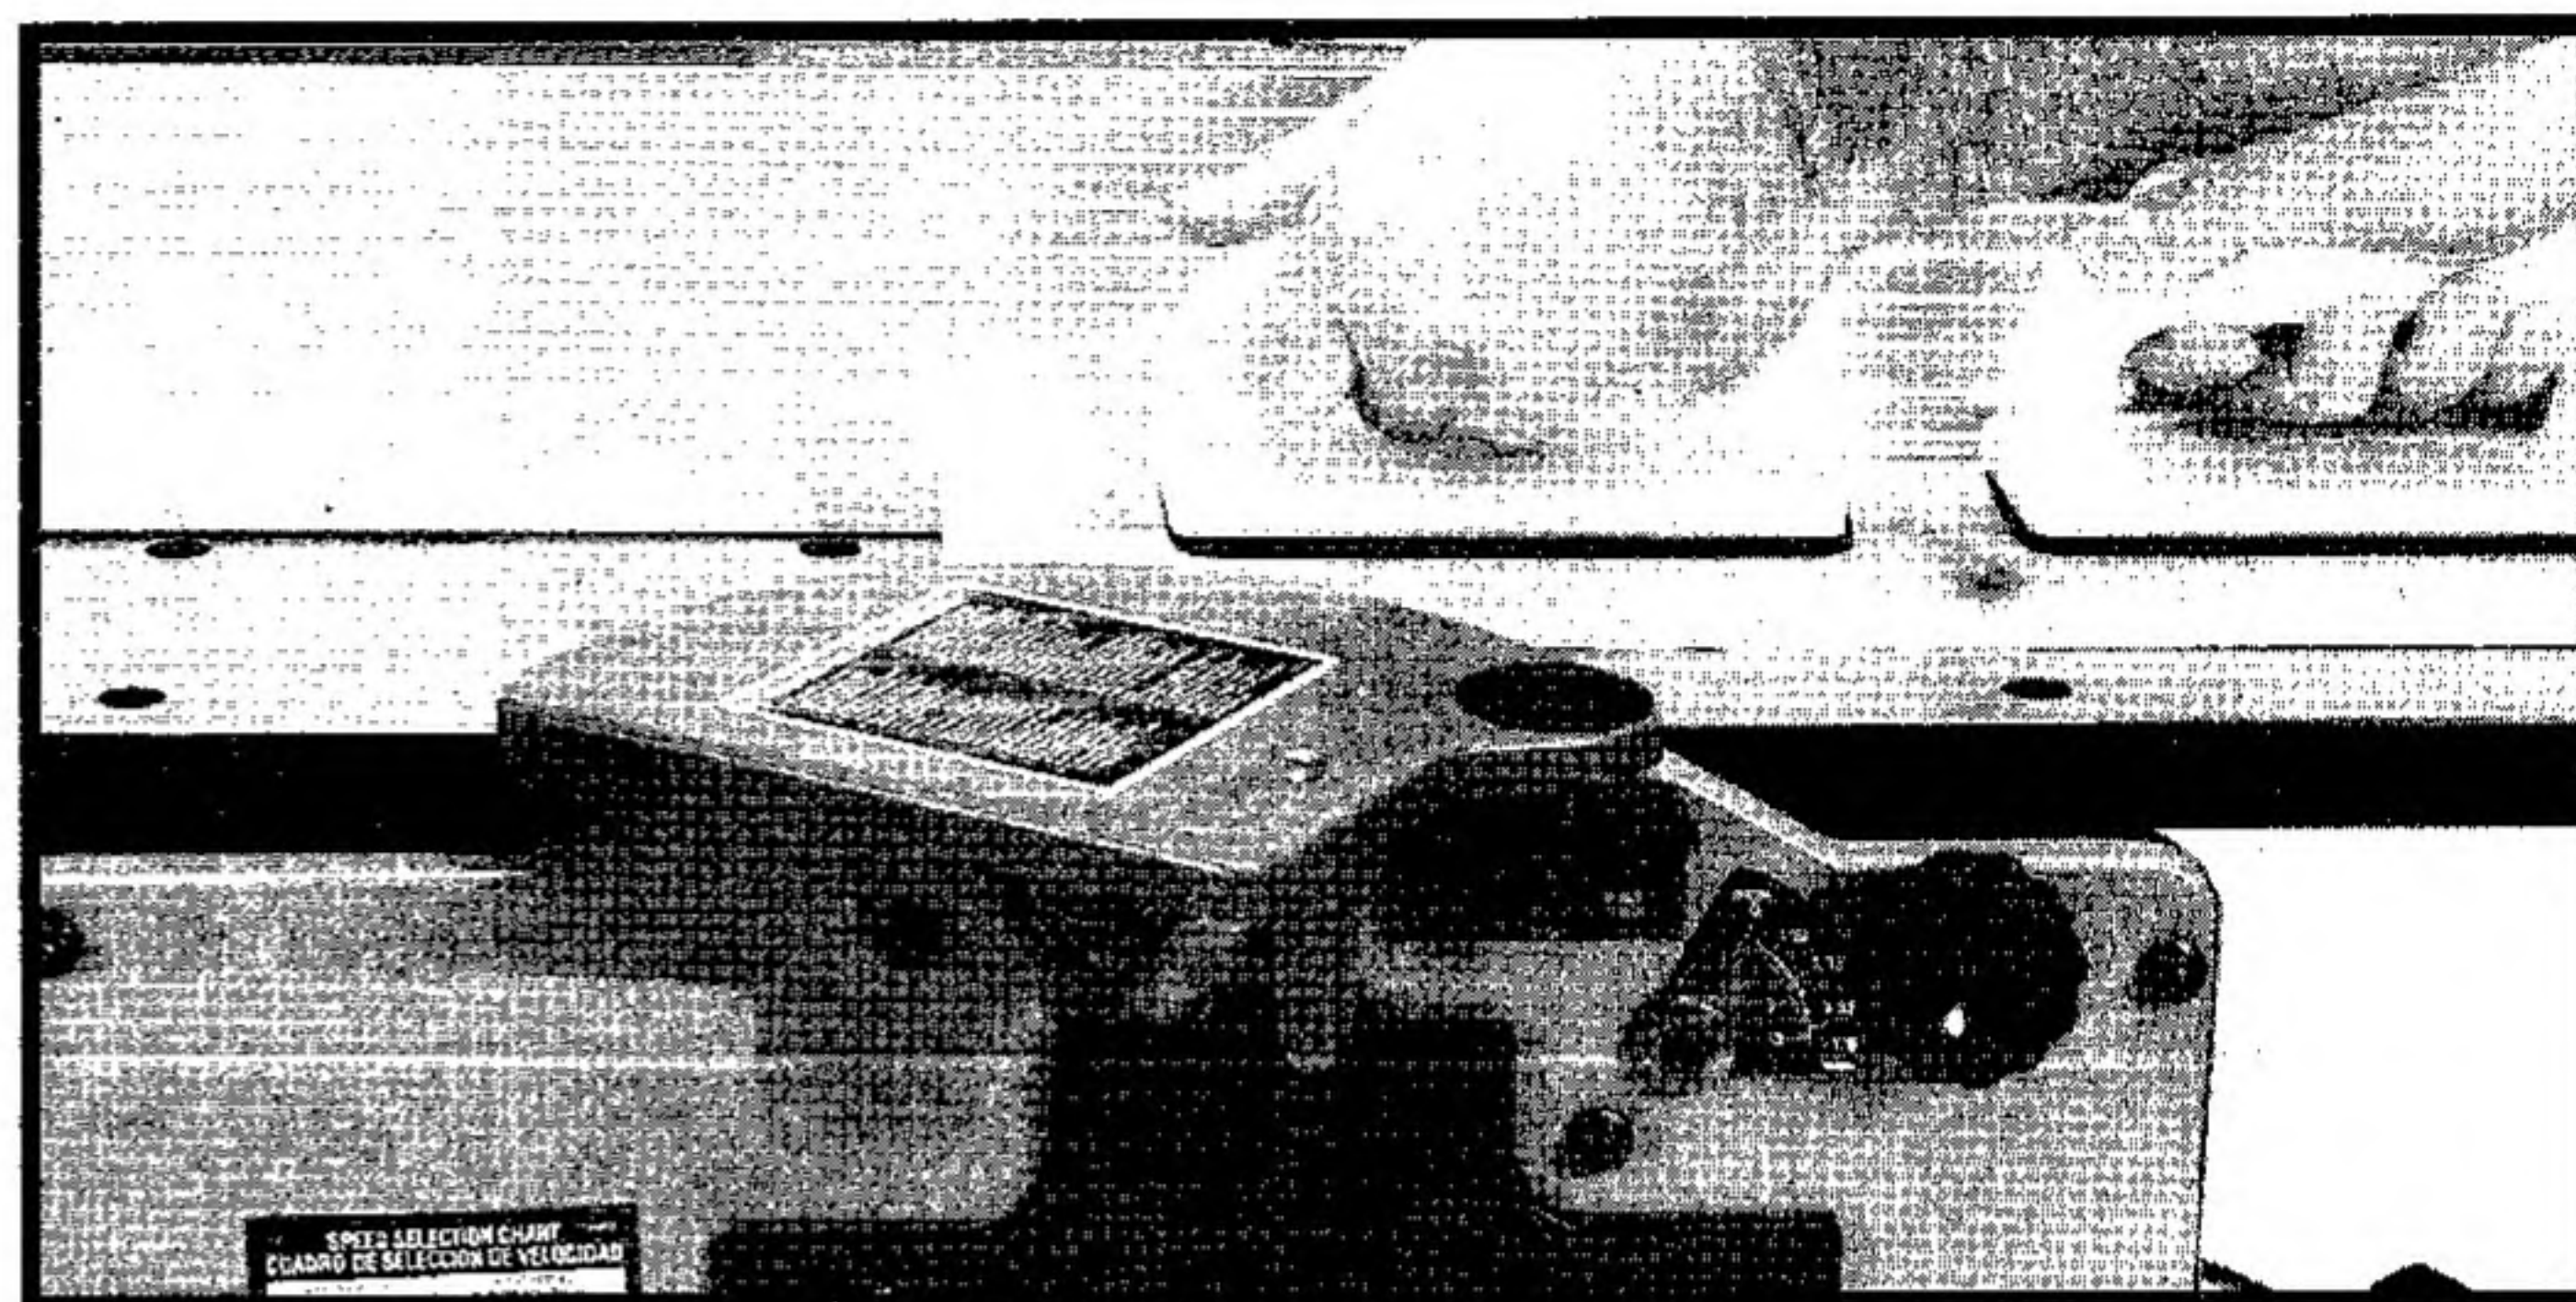

Fig. 37B
2. **PLANING OPERATIONS** – Planing or surfacing are identical to the jointing operation except for the position of the workpiece. For planing, the major flat surface of the workpiece is placed on the infeed table of the jointer with the narrow edge of the workpiece against the fence, as shown in Fig. 37B. The workpiece is moved from the infeed table, across the cutterhead to the outfeed table. Use push blocks when performing planing operations whenever possible.